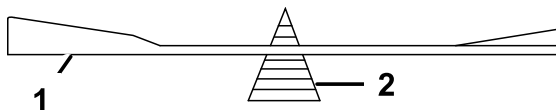

Figure 59
- Check the balance of the blade by putting it on a blade balancer (Figure 59).